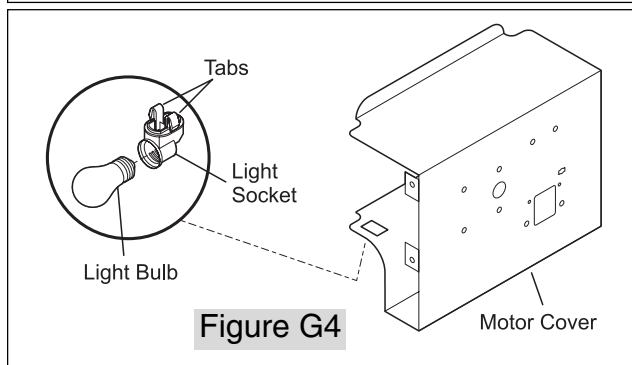

Figure G4
6. Press in on two tabs on bottom of lamp socket base and push through mounting hole. (See Figure G4)